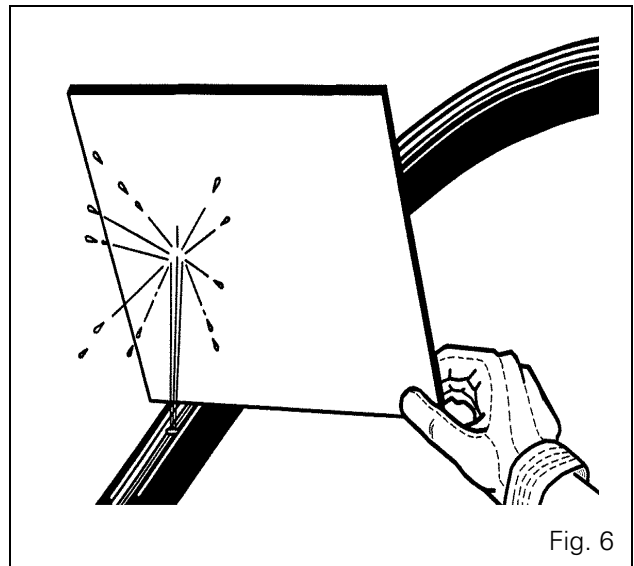

Fig. 6
**Fluid leaks under pressure may not be visible. Use a piece of cardboard or wood to detect leaks. DO NOT USE YOUR BARE HANDS. Wear safety goggles for eye protection. If any fluid penetrates the skin, seek medical advice within a few hours from a doctor familiar with this type of injury, as surgery will be necessary (Fig. 6).**